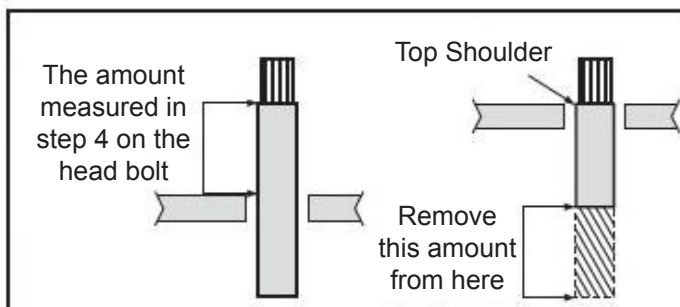

Figure 7. Measuring the amount of the new drawbar head bolt to remove.
5. Remove the amount measured in Step 4 from the bottom of the new bolt head (see Figure 7).